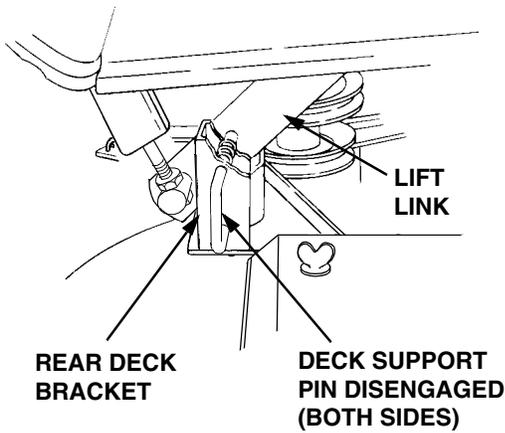

Figure 52
11. Pull the deck support pins outward, turn downward and release so both spring-loaded pins are held in the disengaged position against the outer surface of the deck brackets (Refer to Figure 52).